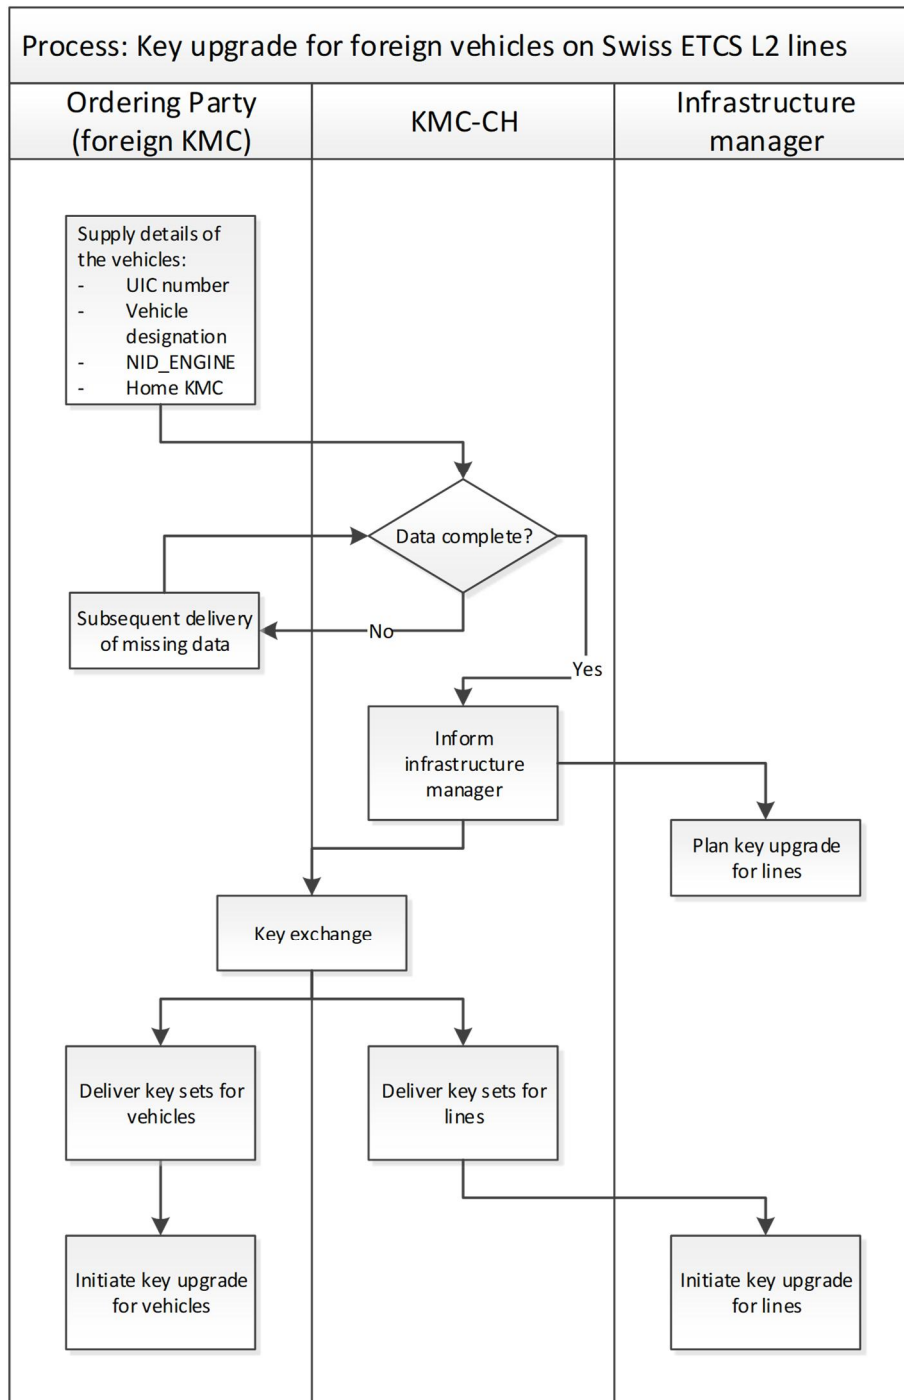

Figure 3: Foreign vehicles on Swiss lines
5.1.1.2 Figure 3 shows the key upgrade process in this case: